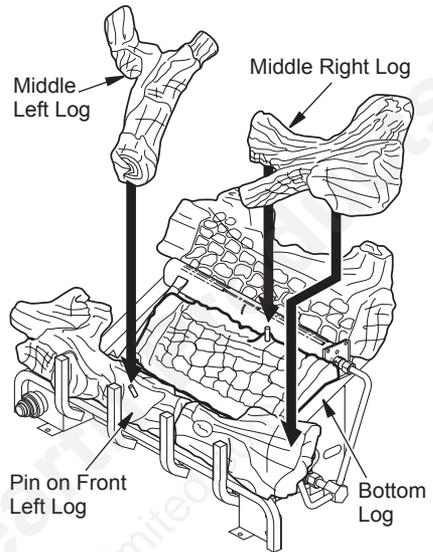

Figure 21 - Installing Log Sets
5. Place middle right log over front right and bottom logs as shown in Figure 21. Be sure hole in middle right log seats over pin in bottom log.
6. Place middle left log over front left and bottom logs as shown in Figure 21. Be sure hole in middle left log seats over pin in front left log.